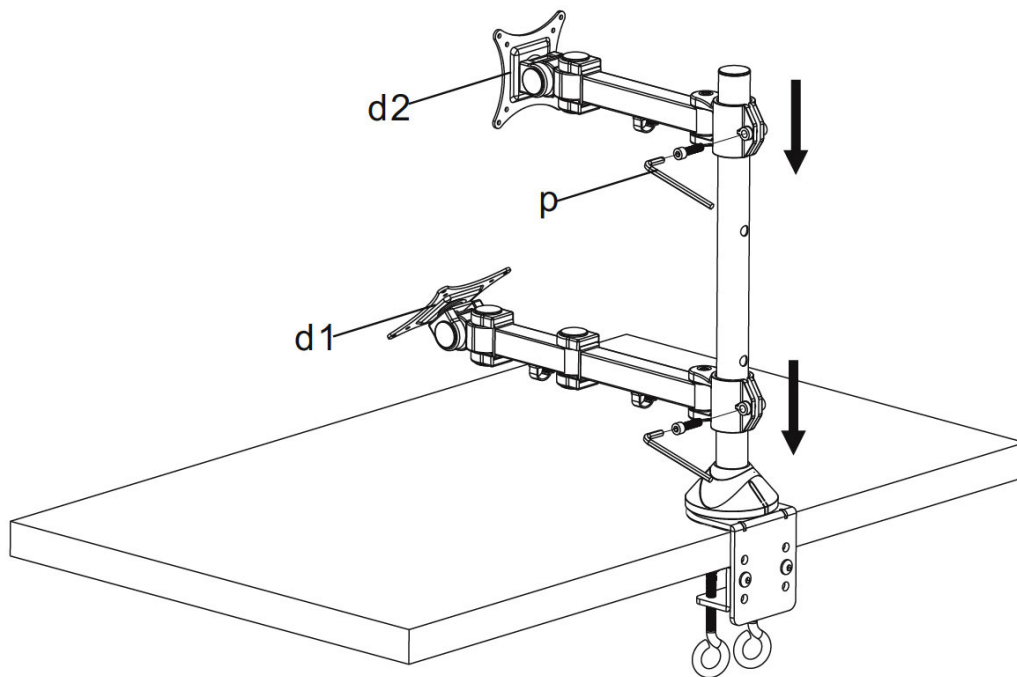

Figure 5
2. Install both VESA Plate with Arm (d1 & d2) onto the Tube Support, make sure the wire clips are pointing downwards. Tighten the clamp bolt using Allen Key (p), see Figure 5.